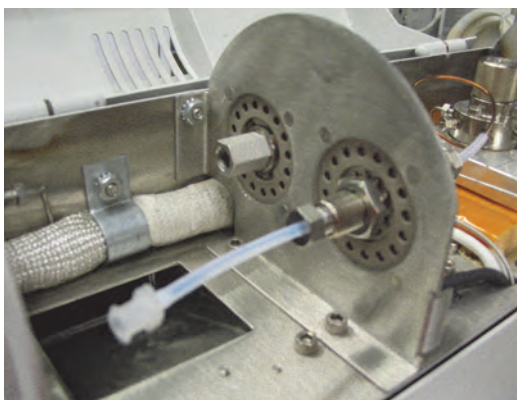

Figure 6.40. Connecting the Rinsing Tool
5. Using the 3/8" wrench, remove the analytical trap and connect the rinsing tool to the outlet (trap) side of the water management fitting (refer to Figure 6.40).